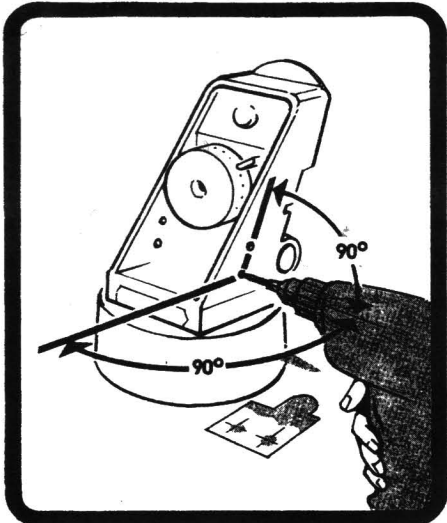

FIG. 1
**Caution:** Be sure to drill perpendicular (90° angle) to frame, as in fig. 1. Insert a scrap piece of thin wood, masonite or similar material inside the Fathom-Master® frame to protect it when the drill comes through.